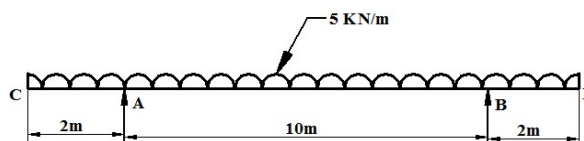

Figure 27
17. Draw shear force and bending moment diagram for the loading factor on the beam as shown in *Figure 27*. Indicate where the inflection and contra flexure points are located. Also locate maximum bending moment with its magnitude